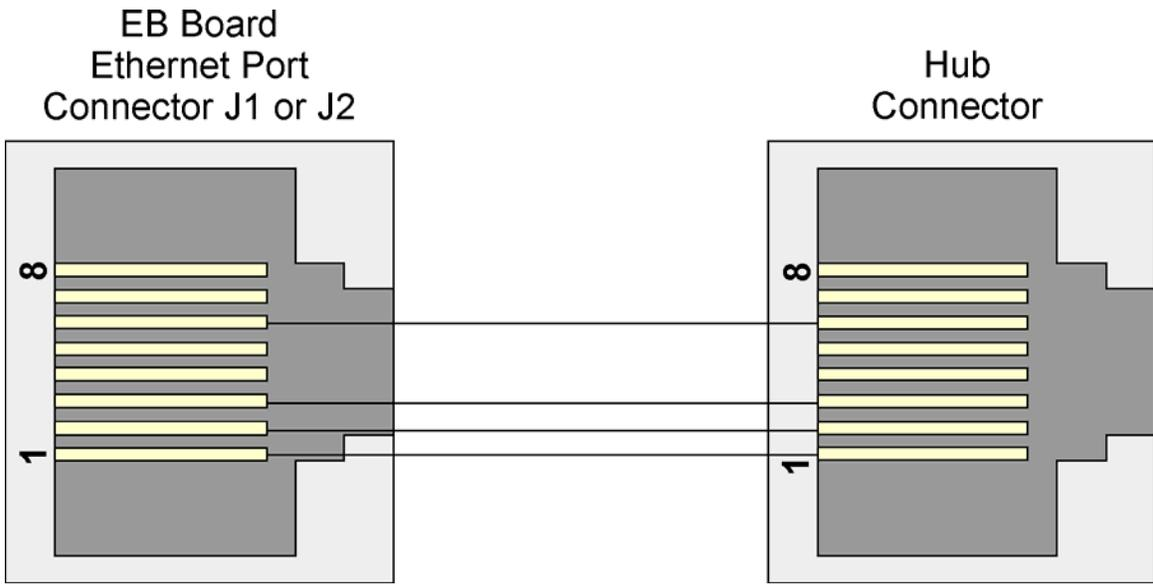

Figure 4 - Standard 10/100Base-T Ethernet Cable (CPU Board to Hub)
8-pin 10/100Base-T Connectors J2 and J3 typically provide connection to a twisted pair Ethernet via an Ethernet Hub. Both ends of the Ethernet cable are equipped with modular RJ45 connectors. A typical hub provides eight (8) 10/100Base-T RJ45 ports (with port 8 having the capability to link to another hub or to an Ethernet communication port. The cable used between a CPU Module Expansion Board's Ethernet 10/100Base-T connector and an Ethernet Hub has a one-to-one wiring configuration as shown in Figure 4. Table 1 provides the assignment and definitions of 8-pin 10/100Base-T Connectors J2 & J3.